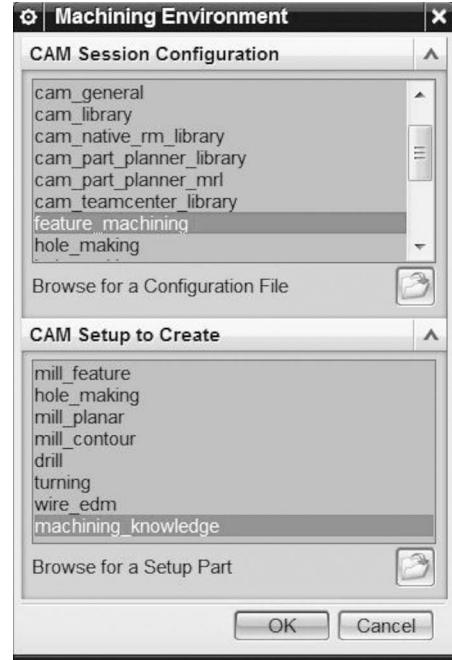
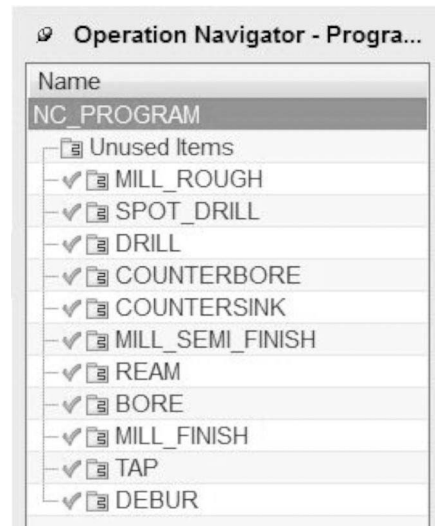
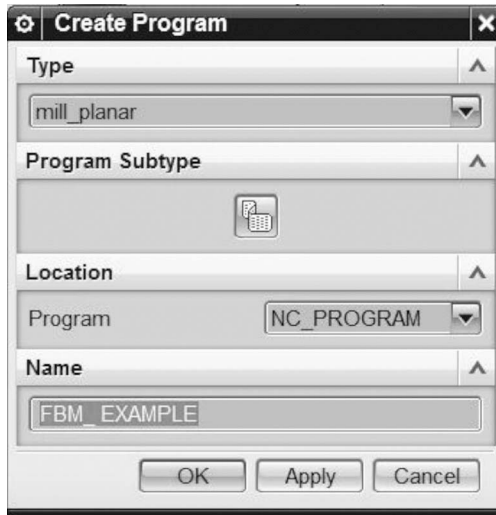

Figure 6-5 Machining Environment
Figure 6-6 Operation Navigator,
Figure 6-16 Create Program Dialog
- B. Select the Machining Environment from the list in the dialog box as seen in Figure 6-5 and press OK. The Program Group Folders (placeholders for the upcoming operations) will be created and listed in the Operation Navigator in the Program Order view (Figure 6-6). Later, we will copy and rename these folders specifically for this project. As processes are created, they will be placed either in the applicable folder for tool-path generation or in the Unused Items section for your subsequent action.
Create a new Program Group to contain all of the paths that will be processed. Left-click to select NC Program (highlighted in Figure 6-6). Right-click and choose Insert from the menu, and then Program Group. Change the Name in the dialog-box to FBM_EXAMPLE and press OK twice (Figure 6-16). Then Drag-and-Drop the Operation Group folder MILL_ROUGH—which contains the generated MILL_SURFACE_PLANAR_RECT_FACE_MILL path into the newly-created FBM_EXAMPLE Program Group.
- J. Go to the Operation Navigator, Program Order view, and select the desired toolpath (for example, the out-of-Date, Counterbore_1.25 in Figure 6-28). Press the Generate Tool Path icon (Figure 6-16). Alternatively, you can select from the list and right-click on the path, then choose Generate from the list. Examine the results and edit the paths to any specific needs.